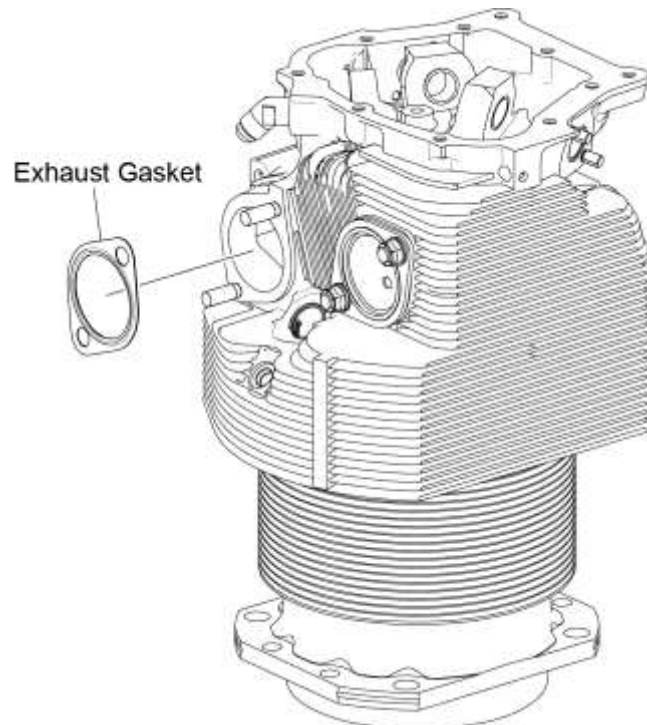

Figure 1
- C. Replace any leaking gaskets (Figure 1).